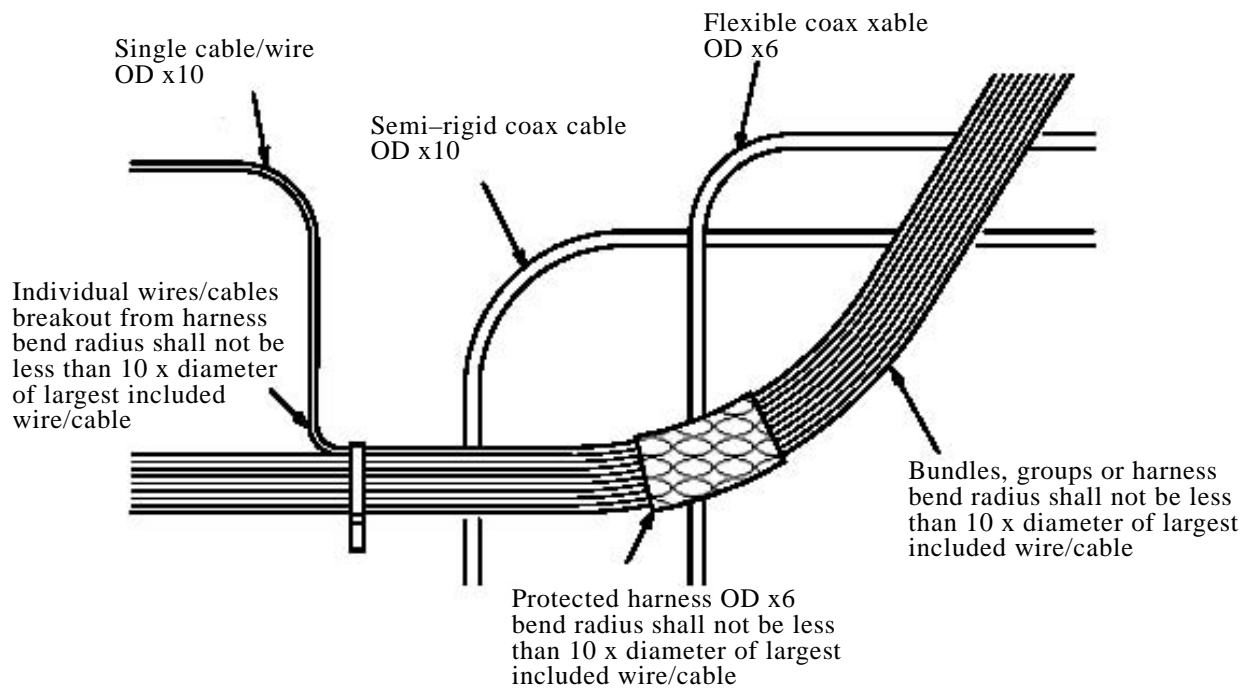

Figure 14. Bend Radius
22. **RADIUS OF BEND.** Wiring bend radius shall comply to the following requirements (Figure 14):